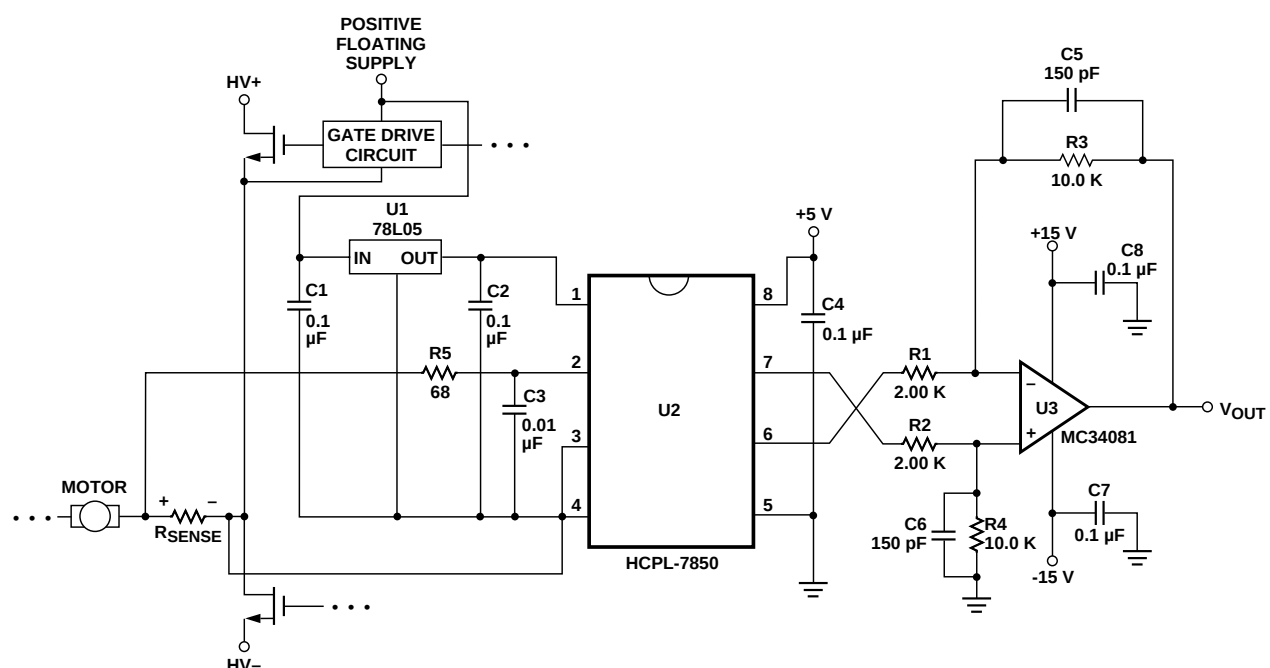

Figure 24. Recommended Application Circuit.
8. CMR (also known as IMR or Isolation Mode Rejection) specifies the minimum rate of rise of a common mode signal applied across the isolation boundary at which small output perturbations begin to occur. These output perturbations can occur with both the rising and falling edges of the common mode waveform and may be of either polarity. A CMR failure is defined as a perturbation exceeding 200 mV at the output of the recommended application circuit (Figure 24). See Applications section for more information on CMR.
The recommended application circuit is shown in Figure 24. A floating power supply (which in many applications could be the same supply that is used to drive the high-side power transistor) is regulated to 5 V using a simple three-terminal voltage regulator (U1). The voltage from
As shown in Figure 24, a 0.1 μF bypass capacitor (C2, C4) should be located as close as possible to the input and output power supply pins of the HCPL-7850. The bypass capacitors are required because of the high-speed digital nature of the signals inside the isolation amplifier. A 0.01 μF bypass capacitor (C3) is also recommended at the input pin(s) due to the switched-capacitor nature of the input circuit. The input bypass capacitor should be at least 1000 pF to maintain gain accuracy of the isolation amplifier.
The recommended method for connecting the isolation amplifier to the shunt resistor is shown in Figure 24. Pin 2 (V_{IN+}) is connected to the positive terminal of the shunt resistor, while pin 3 (V_{IN-}) is shorted to pin 4 (GND1), with the power-supply return path functioning as the sense line to the negative terminal of the current shunt. This allows a single pair of wires or PC board traces to connect the isolation amplifier circuit to the shunt resistor. In some applications, however, supply currents flowing through the power-supply return path may cause offset or noise problems. In this case, better performance may be obtained by connecting pin 3 to the negative terminal of the shunt resistor separate from the power supply return path. When connected this way, both input pins should be bypassed. Whether two or three wires are used, it is recommended that twisted-pair wire or very close PC board traces be used to connect the current shunt to the isolation amplifier circuit to minimize electromagnetic interference to the sense signal.
The recommended application circuit (Figure 24) includes a post-amplifier circuit that serves three functions: to reference the output signal to the desired level (usually ground), to amplify the signal to appropriate levels, and to help filter output noise. The particular op-amp used in the post-amp is not critical; however, it should have low enough offset and high enough bandwidth and slew rate so that it does not adversely affect circuit performance. The offset of the op-amp should be low relative to the output offset of the HCPL-7850, or less than about 5 mV.
To maintain overall circuit bandwidth, the post-amplifier circuit should have a bandwidth at least twice the minimum bandwidth of the isolation amplifier, or about 200 kHz. To obtain a bandwidth of 200 kHz with a gain of 5, the op-amp should have a gain-bandwidth greater than 1 MHz. The post-amplifier circuit includes a pair of capacitors (C5 and C6) that form a single-pole low-pass filter. These capacitors allow the bandwidth of the post-amp to be adjusted independently of the gain and are useful for reducing the output noise from the isolation amplifier (doubling the capacitor values halves the circuit bandwidth). The component values shown in Figure 24 form a differential amplifier with a gain of 5 and a cutoff frequency of approximately 100 kHz, and were chosen as a compromise between low noise and fast response times. The overall recommended application circuit has a bandwidth of 66 kHz, a rise time of 5.2 μ s and a delay to 90% of 8.5 μ s.